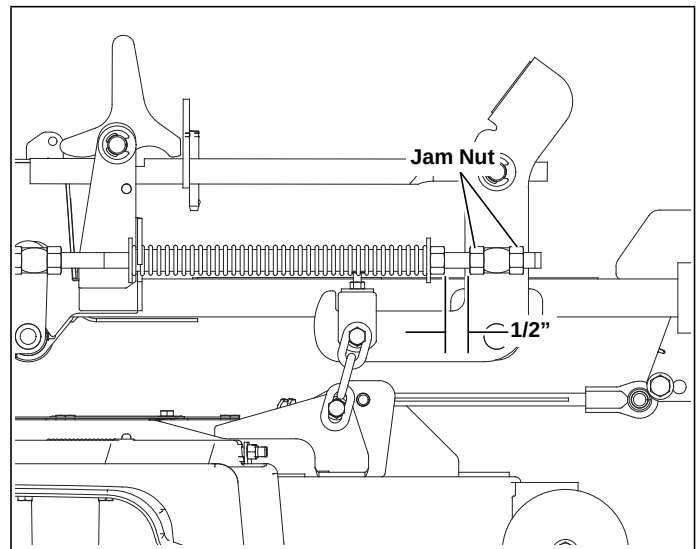

Figure 6-6
loosen the two nuts on the block holding the threaded rod until there is slack in the deck lift chain. Figure 6-6
28. Compress the deck lift assist springs so that there is 1/2" of space between the front nut on the spring and the rear nut on the deck lift block. Typical both sides. Figure 6-6